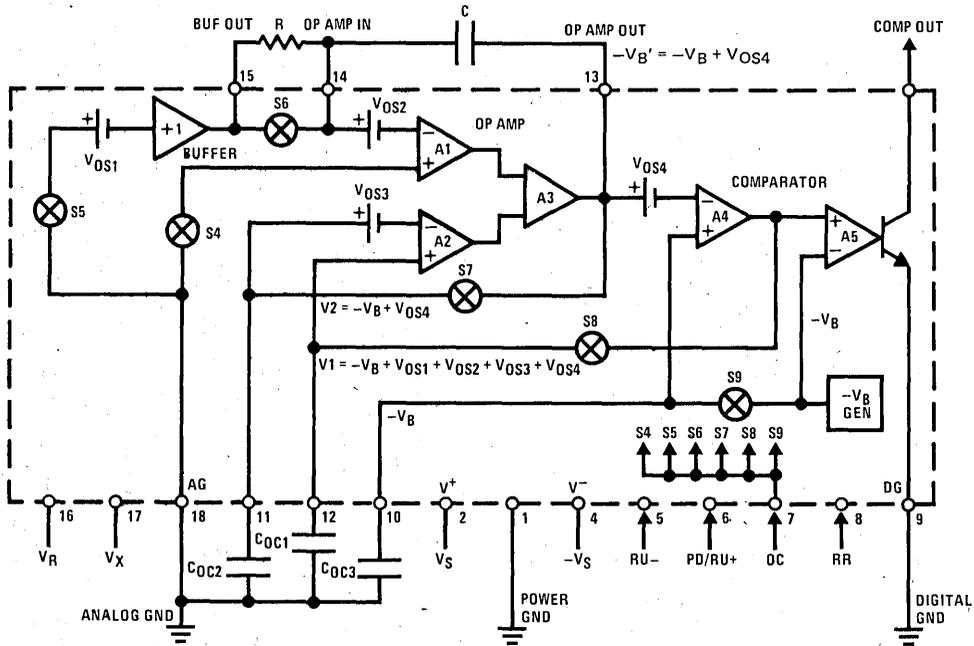

FIGURE 1. Offset Correction Circuit
**Offset Correction Description (Figure 1)**
**Initialization (Figure 1)**